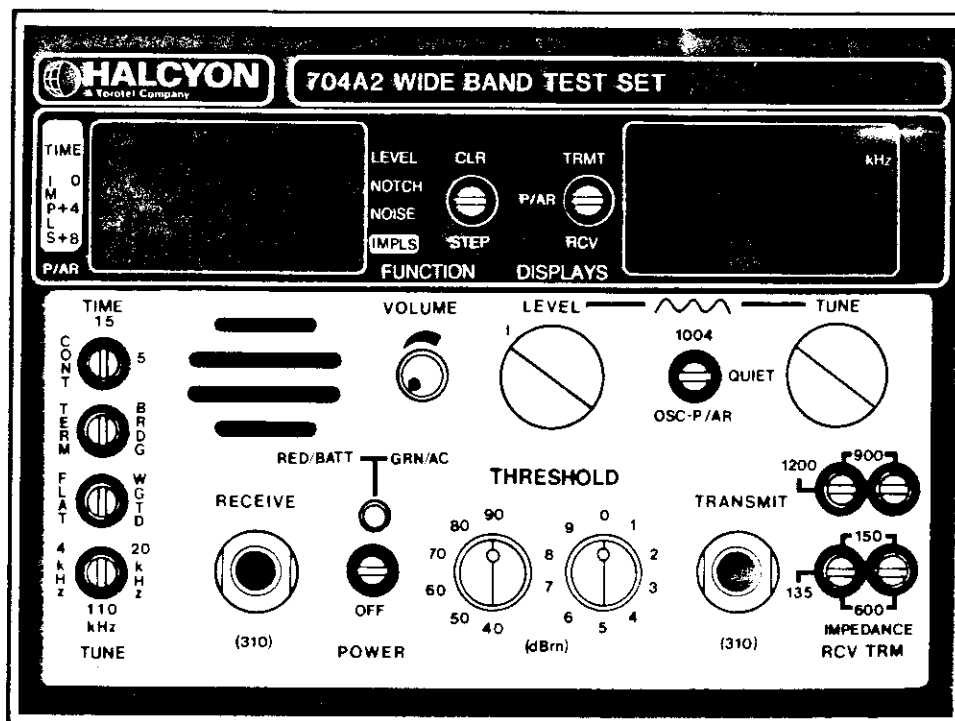

Figure 1. 704A2 Wide Band Test Set
1.01 This practice provides operating instructions for the Halcyon 704A2 Wide Band Test Set. (See figure 1.)